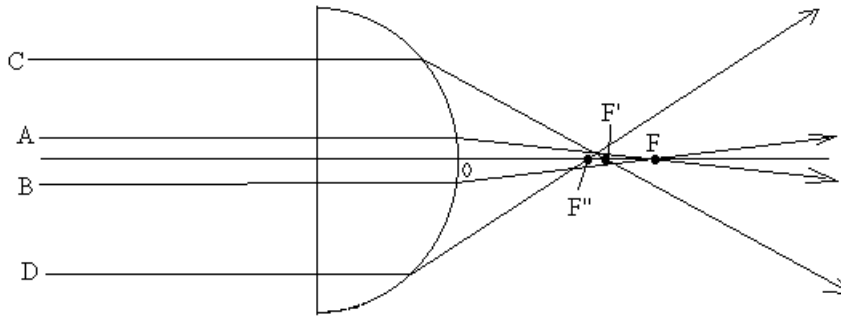

Figure 2
Consider the rays parallel to the axis of a converging lens, which is shown in Figure 2. We assume that the lens is made of a transparent material, so its index of refraction is greater than that of the air. The axis of a lens is a straight line passing through the very center of lens and perpendicular to both lens surfaces. By applying Snell's law to both lens surfaces, we can see that each ray is bent toward the axis after passing through the lens and focused to a point, F , called focal point. This will not be precisely true for a lens with spherical surfaces. But it will be nearly true for "thin lenses"- that is, parallel
In general, when the diameter of the beam is not small compared to the radii of curvature of the spherical surfaces, the focal point is not a point. In Figure 2, rays A and B, closer to the axis of the lens, are focused to a focal point F while rays C and D, farther away from the axis, are focused to a slightly different focal points F' and F''. Thus the focused spot as view on the screen placed at the focal point F is not sharp. This phenomenon is known as the spherical aberration.
5. Repeat steps 2 and 3 with the semicircular lens. Measure the focal points for rays close to the axis, corresponding to A and B in Figure 2, and away from the axis, corresponding to C and D.